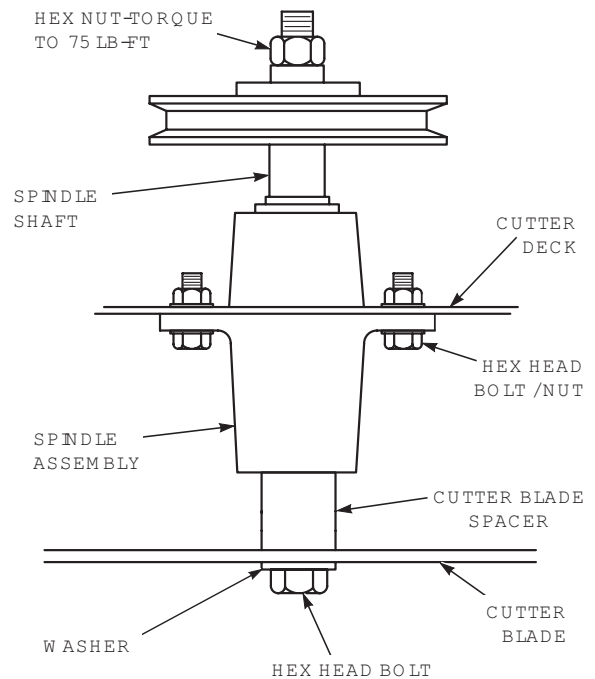

Figure 7-8. Blade Replacement
3. Secure the cutter blades to prevent them from rotating, (use the optional Blade Buddy tool, P/N 9212, to assist in securing the cutter blades), remove the nut from the blade attaching bolt. Remove the cutter blade, bolt and spacer from the spindle shaft. See Figure 7-8.
- Install the hex nut to the blade bolt at the top of the cutter spindle. Secure the blades from rotating and torque to 75 ft/lbs. See Figure 7-8.